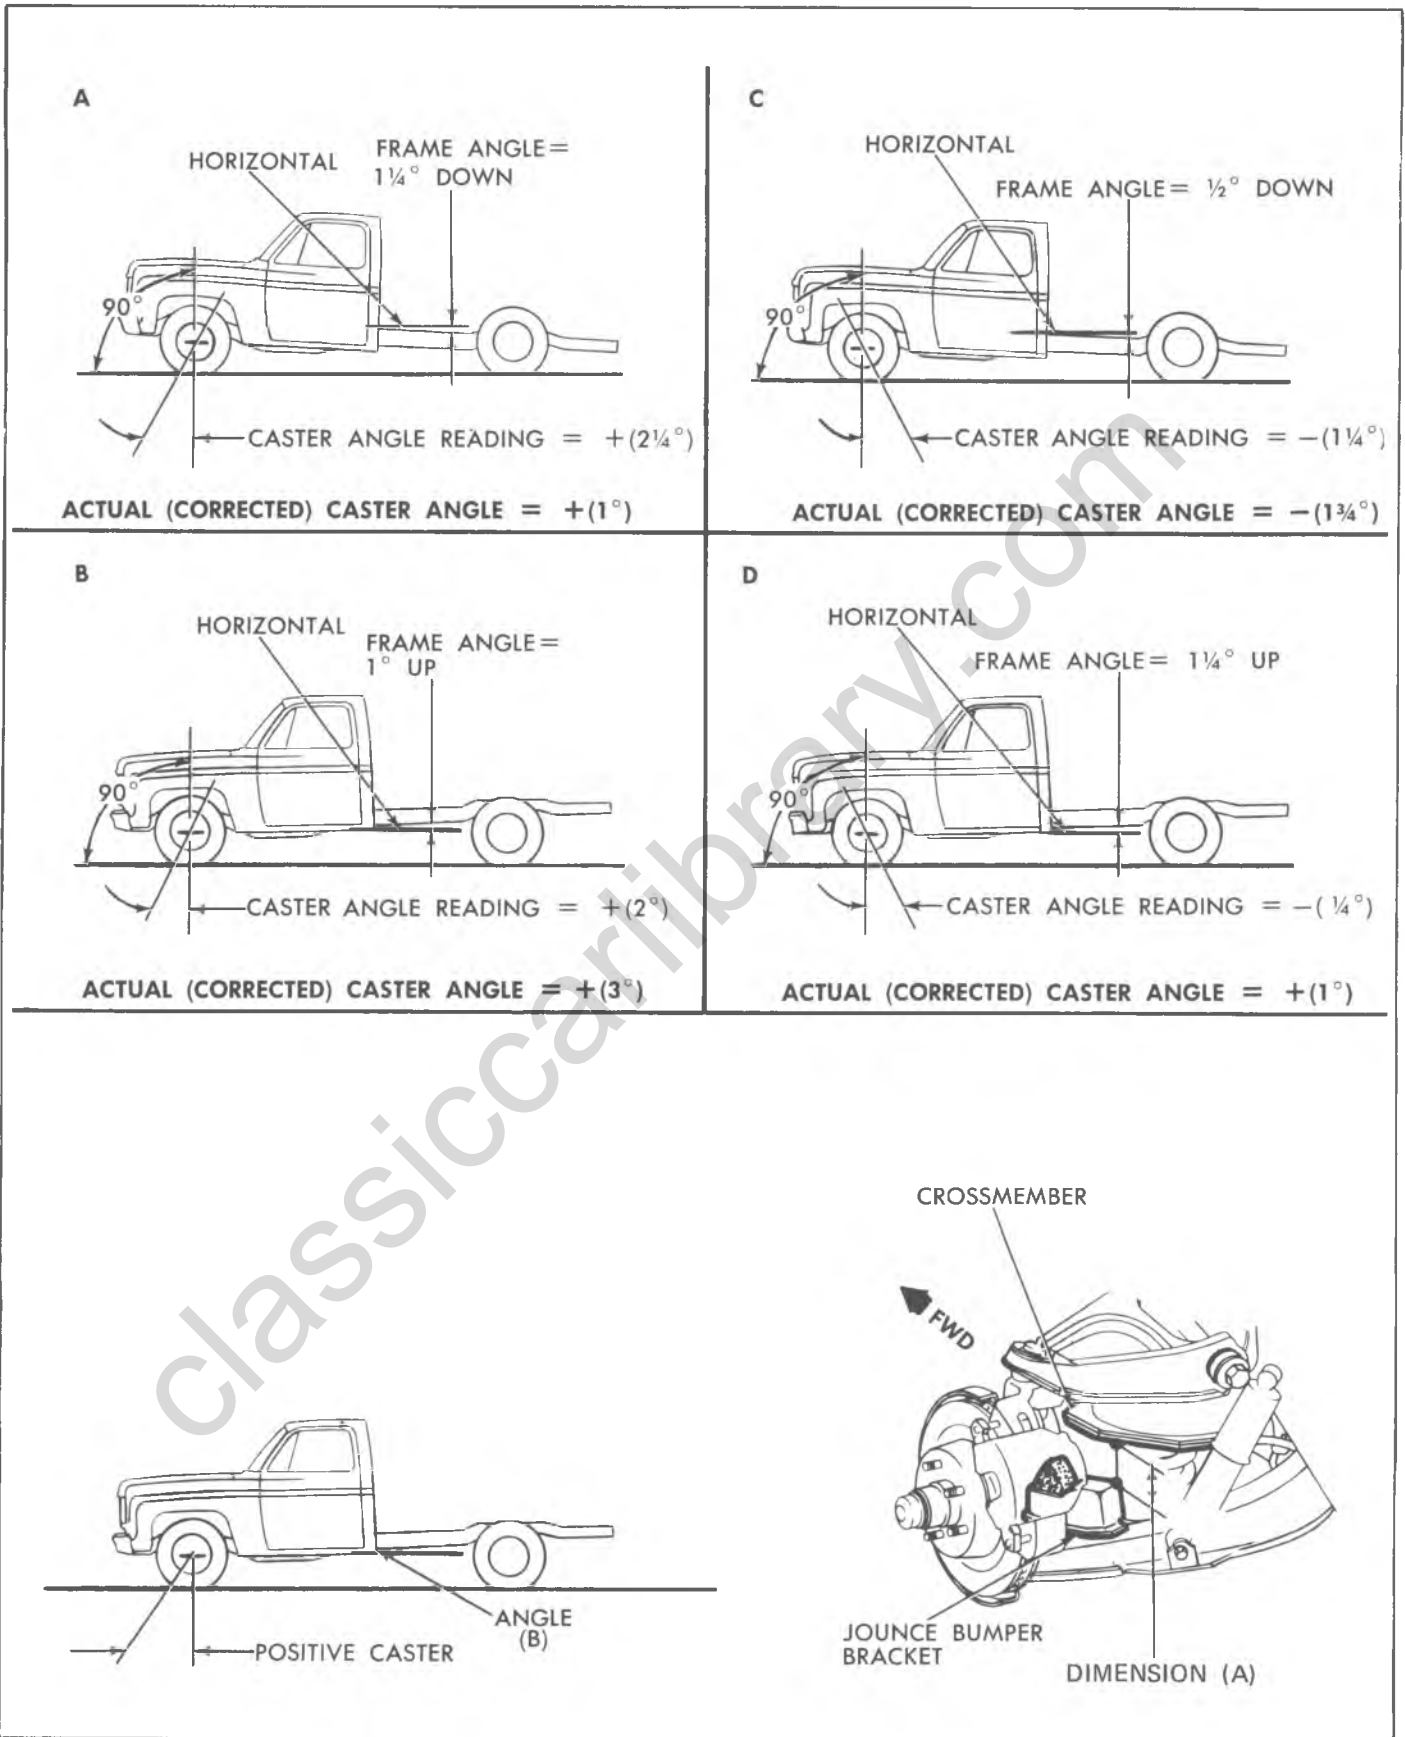

Fig. 19—Determining Caster - Typical (C Series Shown)
### Caster (Fig. 19)
1. With the vehicle on a level surface, determine the frame angle "B" in Fig. 19, using a bubble protractor or clinometer.
2. Draw yourself a graphic as in Fig. 19 that is representative of the frame angle (either "up" in rear or "down" in rear).